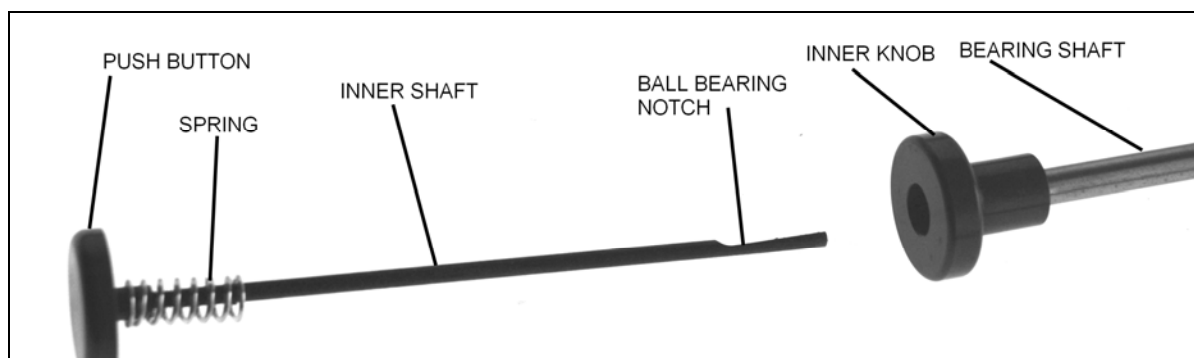

Figure 4
3. Remove the **INNER SHAFT** assembly from the **BEARING SHAFT**. (Figure 4)